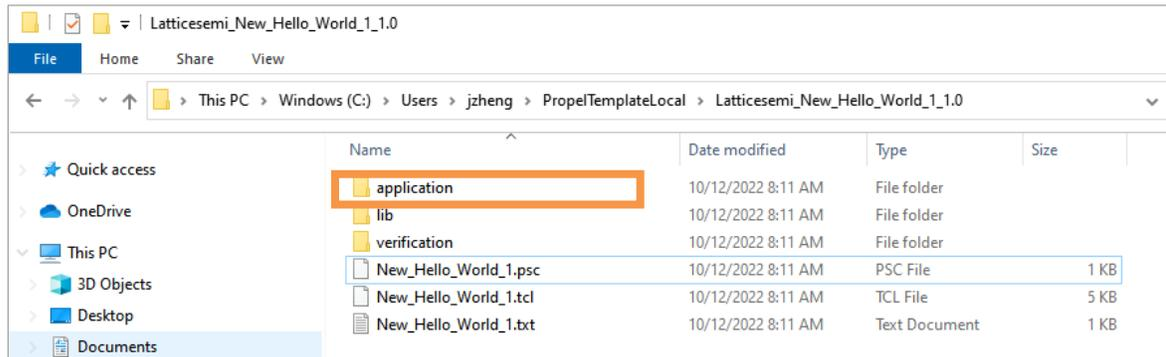

Figure 2.167. Export Template to PropelTemplateLocal Folder
- By default, after you click the Generate button, the new template can be installed to your custom template folder, which is a folder named PropelTemplateLocal under \$HOME (Figure 2.167).
- Option under Template Resources, such as the application folder, contains functional-ready embedded application source codes for C project. Check the box before it (Figure 2.163), then the application under current project is also exported to destination (Figure 2.167). Other files under this option works the same way.